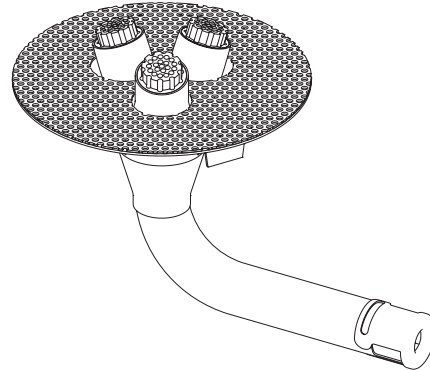

Figure 52
6. Fit the Center Burner and Center Burner Screen together as shown in Figure 52.